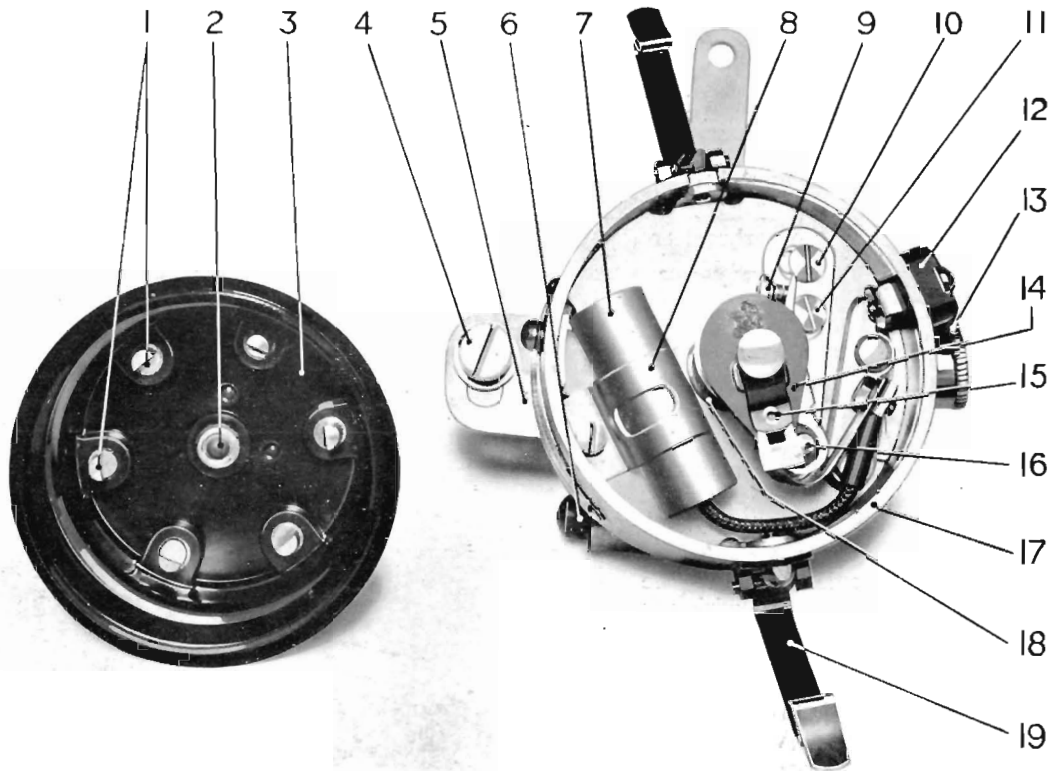
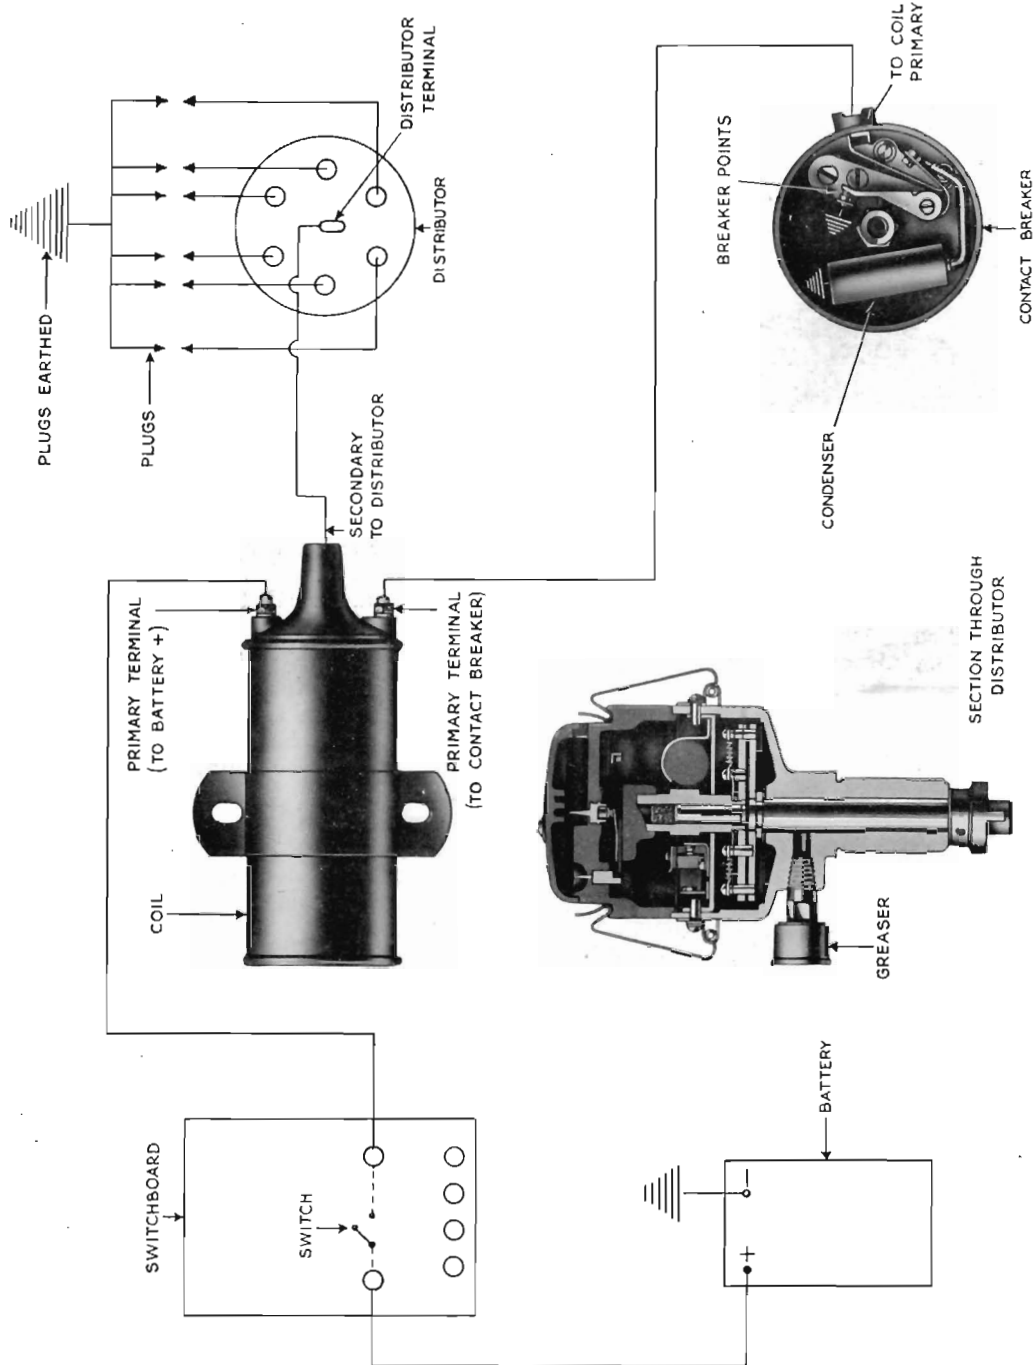
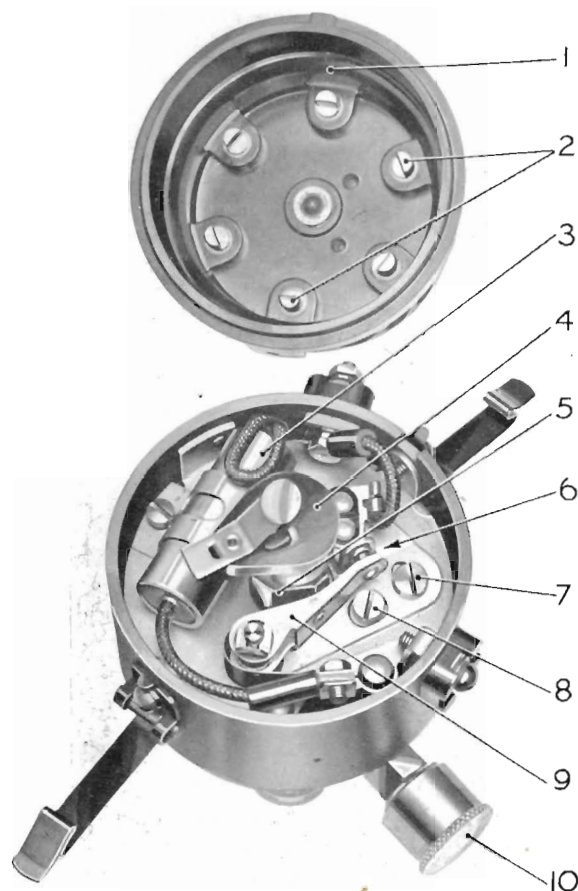

Fig. 2
FIG. 3.
Fig. 4.
As shown in the wiring diagram Fig. 3, the positive side of the battery is connected through the control switch to the primary terminal of the coil. The other primary terminal of the coil is connected to the contact-breaker terminal and the moving breaker point. The fixed breaker point and the battery negative are earthed so that
Distributor Spindle. Give the greaser (13) Fig. 2, (10) Fig. 4, a half turn every 500 miles and replenish with grease when necessary.
Distributor Camshaft. A few drops of light engine oil should be given to the felt wick in the top of the shaft under the rotor (14) Fig. 2, (4) Fig. 4, every 500 miles.
Breaker Arm Fulcrum Pin. Lubricate the fulcrum pin (16) Fig. 2, sparingly when docking.
The only parts requiring occasional adjustment are the contact points and the sparking plug gaps. To adjust the contact points slack off the screw (10) Fig. 2, (7) Fig. 4, and turn the eccentric screw (11) Fig. 2, (8) Fig. 4, until the gap between the points is .015 in. then tighten the locking screw.
The distributor should not be disturbed if it is functioning satisfactorily but at overhaul it may be desired to dismantle for inspection. Take off the cover (3), Fig. 2, complete with cables and remove the clips (19). Remove the screws securing the contact breaker plate and withdraw the plate, the camshaft and weights shown in Fig. 3, can now be withdrawn. To remove the coupling at the bottom, the taper retaining pin must be removed and the shaft withdrawn from the top.